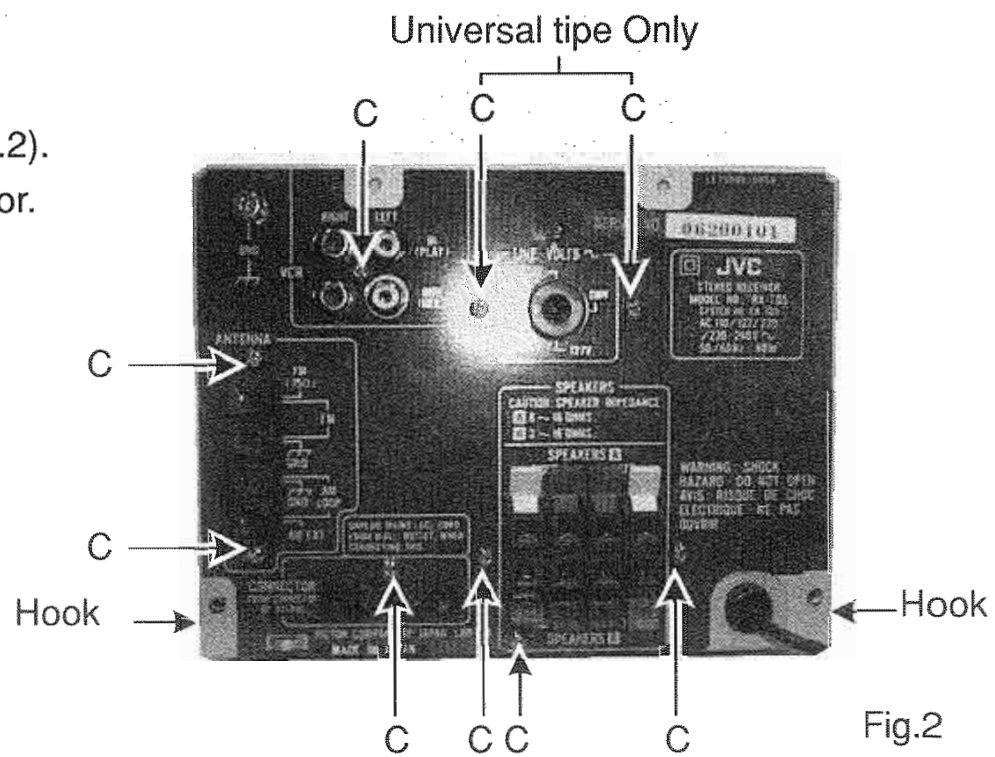

Fig.2
1. Remove 7 screws(C) fastening rear panel (Fig.2).
2. Remove 2 screws(C) fastening Voltage selector. (Universal type only)